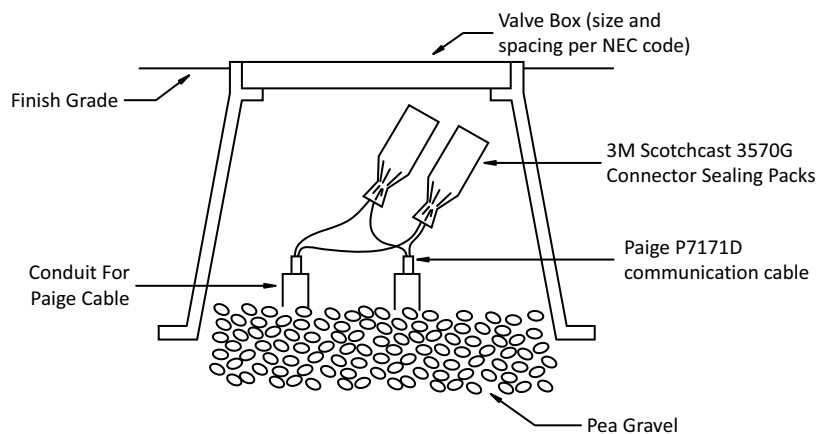

Figure 31 - Splice Detail
- If wire splices are unavoidable, splices must be completely insulated from soil and moisture using 3M™ Scotchcast™ 3570G Connector Sealing Packs (formerly 3M Scotchlok™ 3570 Connector Sealing Packs) or Spears® DS-100 Dri-Splice Connectors with DS-300 Dri-Splice Sealant (Figure 31).